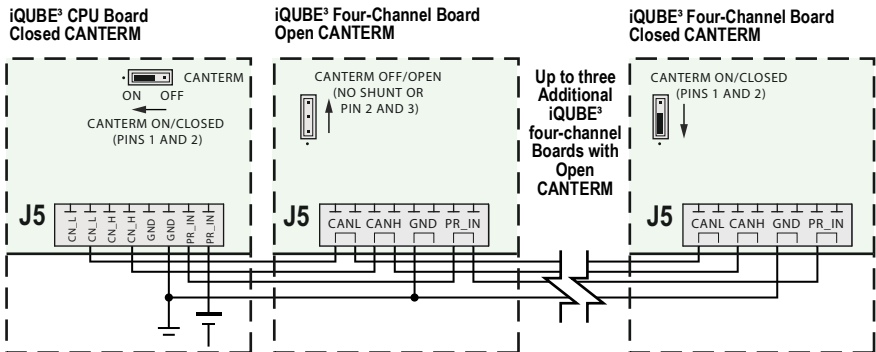

Figure 5. J5 CANBUS Wiring
- Wire J5 connectors in parallel from the iQUBE³ CPU board J5 to the J5 connector of each four-channel iQUBE³ board. Figure 5 displays an example for wiring multiple iQUBE³ boards.